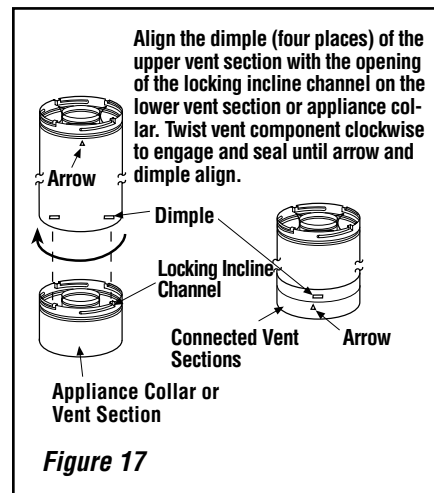

Figure 17
B. Attach vent components to appliance - Secure Vent® SV8 direct-vent system components are unitized concentric pipe components featuring positive twist lock connections (see **Figure 17**).
To attach a vent component to the appliance collar, align the dimpled end over the collar, adjusting the radial alignment until the four locking dimples are aligned with the inlet of the four inclined channels on the collar (refer to **Figure 17**). Push the vent component against the collar until it fully engages, then twist the component clockwise, running the dimples down and along the incline channels until they seat at the end of the channels. The unitized design of the **Secure Vent** components will engage and seal both the inner and outer pipe without the need for sealant or screws. If desired a #6 x 1/2" screw may be used at the joint, but it is not required as the pipe will securely lock when twisted.
Push the vent component against the previous section until it fully engages, then twist the component clockwise running the dimples down and along the incline channels until they seat at the end of the channels. **This seating position is indicated by the alignment of the arrow and dimple as shown in Figure 17.**
F. Change vent direction to horizontal/inclined run - At transition from or to a horizontal/inclined run, install the SV8 E45 and SV8 E90 elbows in the same manner as the straight vent sections. The elbows feature a twist section to allow them to be routed about the center axis of their initial collar section to align with the required direction of the next vent run element. **Twist elbow sections in a clockwise direction only so as to avoid the possibility of unlocking any of the previously connected vent sections.** See **Figure 17 on Page 14** and **Figure 19**.
Secure Vent SV8 direct-vent system components are unitized concentric pipe components featuring positive twist lock connection, (refer to **Figure 17 on Page 14**). All of the appliances covered in this document are fitted with collars having locking inclined channels. The dimpled end of the vent components fit over the appliance collar to create the positive twist lock connection.
C. Frame ceiling opening - If the vertical route is to penetrate a ceiling, use plumb line to locate the center above the appliance. Cut and/or frame an opening, 13" x 13" (330 mm x 330 mm) inside dimensions, about this center (refer to **Figure 17 on Page 14**).
E. Attach vent components to each other - Other vent sections may be added to the previously installed section in accordance with the requirements of the vent tables. To add another vent component to a length of vent run, align the dimpled end of the component over the inclined channel end of the previously installed section, adjusting the radial alignment until the four locking dimples are aligned with the inlets of the four incline channels of the previous section. Push the vent component against the previous section until it fully engages, then twist the component clockwise running the dimples down and along the incline channels until they seat at the end of the channels. **This seating position is indicated by the alignment of the arrow and dimple as shown in Figure 17 on Page 14.**
H. Change vent direction - At transition from or to a horizontal/inclined run, install the SV8E45 and SV8E90 elbows in the same manner as the straight vent sections. The elbows feature a twist section to allow them to be routed about the center axis of their initial collar section to align with the required direction of the next vent run element. **Twist elbow sections in a clockwise direction only so as to avoid the possibility of unlocking any of the previously connected vent sections (see Figure 17 on Page 14).**